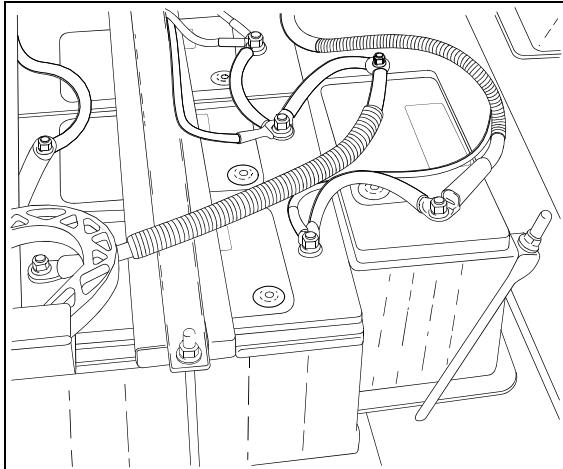

FIGURE 27: BATTERIES (TYPICAL)
The vehicle is provided with four (4) maintenance-free 12 volt heavy-duty batteries connected in series-parallel (Fig. 27). The top-mounted negative and positive terminals are tightly sealed to prevent leaks. Water never needs to be added to this type of battery. There are no filler caps in the cover. The battery is sealed, except for small vent holes in the cover. The vents must not be restricted as they allow small amounts of gases produced in the battery to escape. The special chemical composition inside the battery reduces gassing to a very small amount at normal charging voltages. Besides reducing gassing, the special chemistry greatly reduces the possibility of overcharge damage.